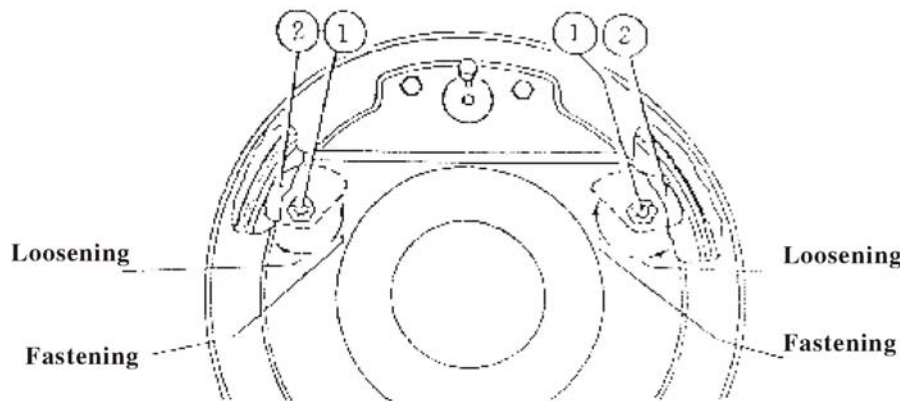

Fig.61
Attention:Do not apply too much force to the adjusting screw (Fig 61/1), the cam Plate welded on the inside is forced largely.
4. If loosening the adjusting screw (Fig 61/1) in direction “Loose” for about 30° the tolerance between both braking shoes and drums is released to approx 0.75 mm
5.Adjust an other barke drum, pay attention that the roating diretion of the adjusting bolts (Fig 61/1) is inverse.